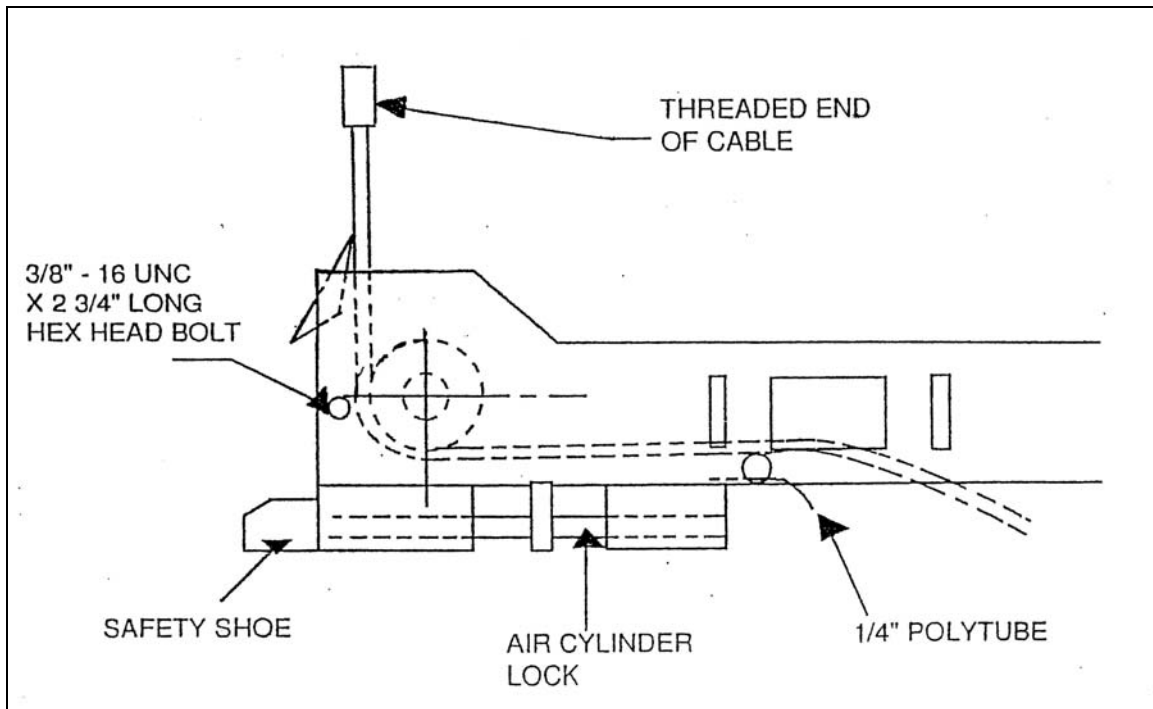

Figure 3. Typical cable routing in crossmember assembly
- Before beginning cable routing, refer to Figure 3 Cable and Routing Diagram.
- Begin routing cable #4 (part #2-0542) from the right side of the front crossmember assembly using the non threaded end of the cable as described in Figure 3 and section 8.5, and out through the opening under the front of the right deck.
- Begin routing cable #3 (Part # 2-0541) from the right rear crossmember assembly using the non threaded end of the cable as described in Figure 3, and out through the crossmember assembly to the opening under the rear of the right deck.
- Route cable #2 (Part # 2-0540) from the left side of the rear crossmember assembly using the non threaded end of the cable as described in Figure 3, and out through the crossmember assembly to the opening under the rear of the left deck.
- Route cable #1 (Part # 2-0539) from the left side of the front crossmember assembly using the non threaded end of the cable as described in Figure 3, and out through the crossmember assembly to the opening under the front of the left deck.